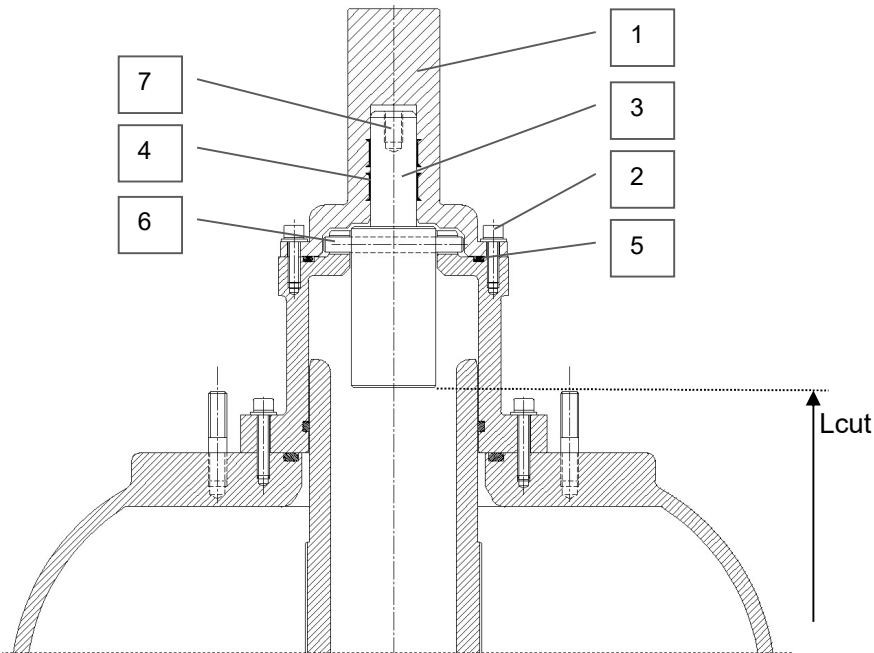
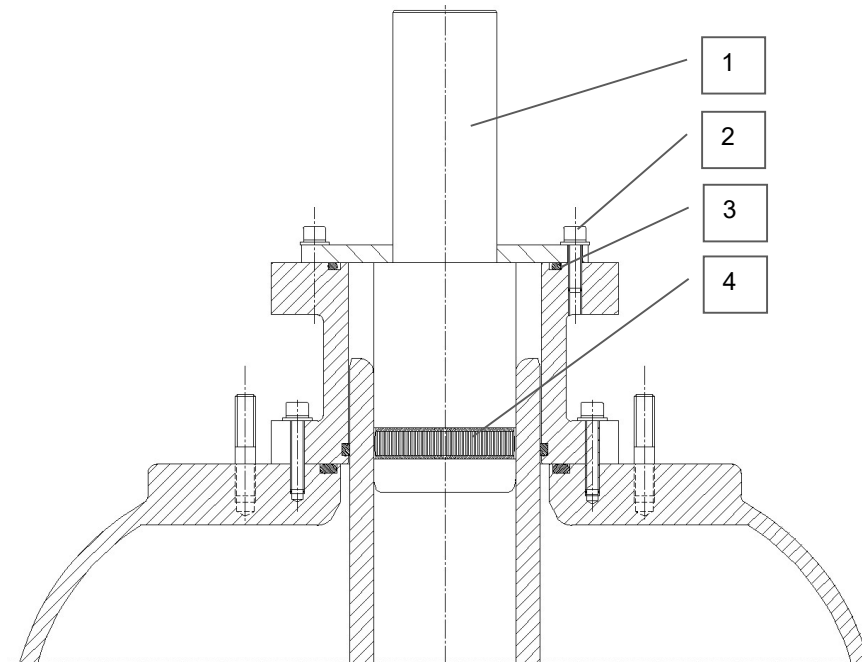

Fig. 21
Fig. 22
In this type of execution, the current in the bushing is carried out directly by the lead coming from the transformer's winding, up to the lug placed in the upper part of the bushing (fig. 21 and fig. 22).
In this type of execution, the current is carried directly by the central bushing conductor; the passage of current from the tube and the top bushing terminal (fig. 22) is obtained by means of special inner lugs (1), equipped with multicontact blades (4).